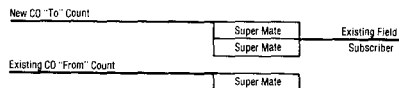

Fig. 22—Removal of old C.O. count.
- (c) Remove old count (transfer "from") module from the subscriber module (See Figure 22) using a 4053PM Separator Tool.